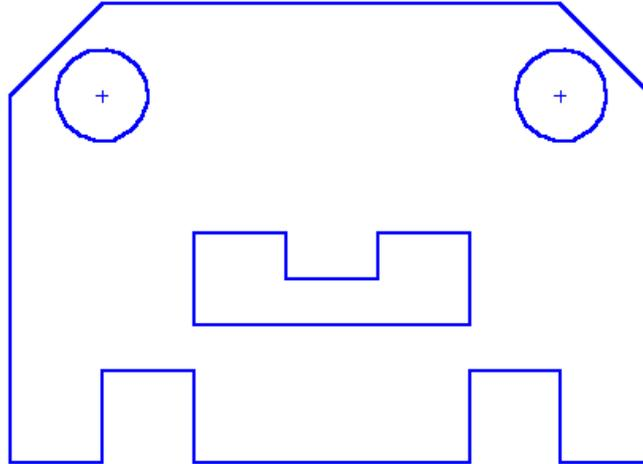

Figure 1-50 Final sketch for Tutorial 1
11. Choose the **Select** button from the **Sketch** toolbar. This completes the sketch for Tutorial 1. The final completed sketch for Tutorial 1 is shown in Figure 1-50.